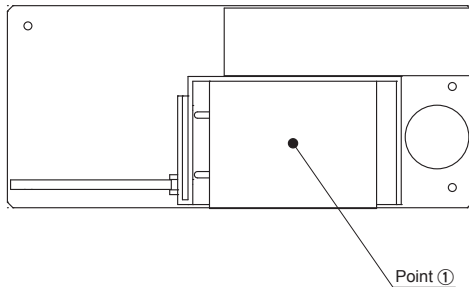

Fig.6.1 Temperature measuring point of TEPS45F (Top View)
- Please have sufficient ventilation to keep the temperature of point ① in Fig.6.1 -6.2 at Table6.1 -6.2 or below. Please also make sure that the ambient temperature does not exceed 70°C.
- Please be careful of electric shock or earth leakage in case of temperature measurement, because Point ① is live potential.